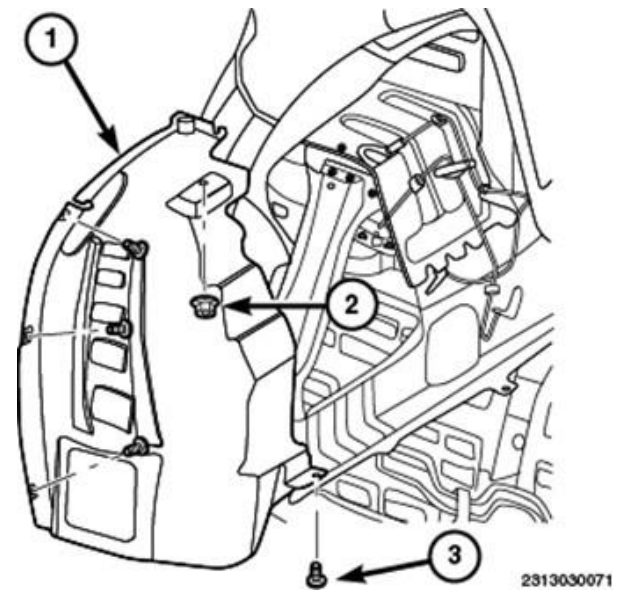

Figure 6 – Wheelhouse Splash Shield
11. Remove the fasteners (3) and (2) securing the left front wheelhouse splash shield (Figure 6).
12. Remove the left front wheelhouse splash shield (1) (Figure 6).